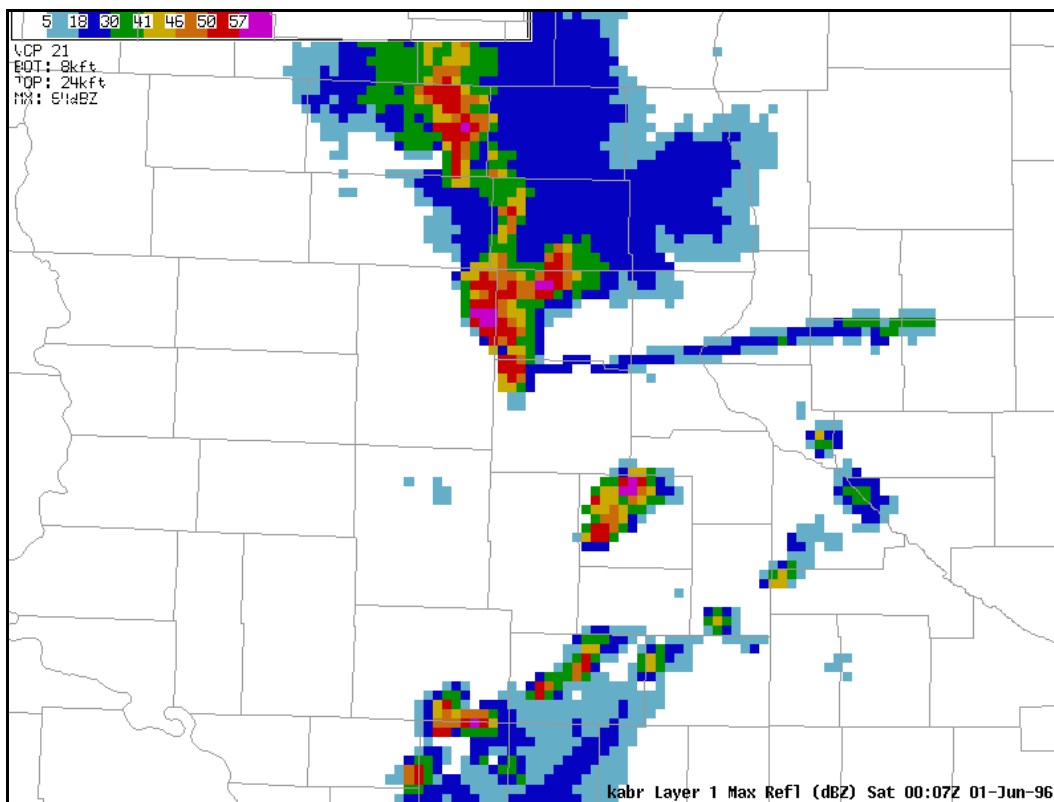

Figure 3-16. Layer Composite Reflectivity Maximum (LRM) product - low layer with base at 8,000 ft MSL.
See Figure 3-16 for an example of the LRM product.
- BOT: Bottom of the layer in kft, which is user selectable (Figure 3-16)